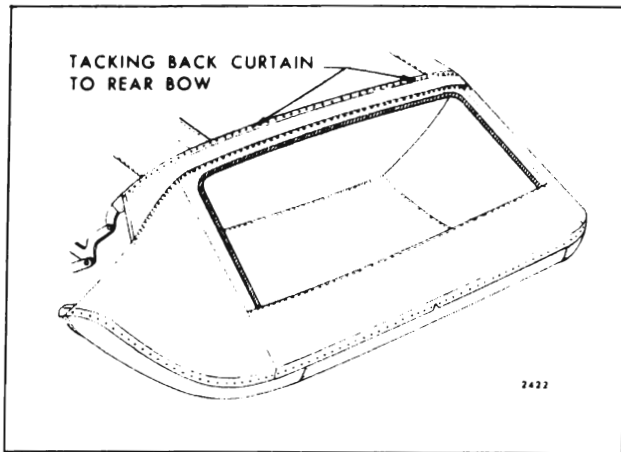

Fig. 13-56—Back Curtain Installed
12. Working from body center progressively outboard to right and left sides, tack back curtain to rear bow. Make sure all fullness has been drawn from curtain material (Fig. 13-56). Any excess material at rear bow, may be carefully trimmed.